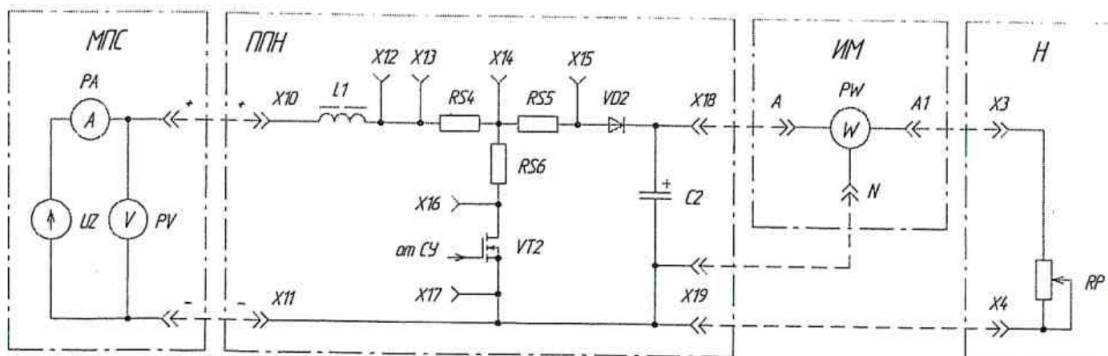

Рис. 2: Schematic diagram for the study of a step-up DC-DC converter
1. Assemble the circuit for the study of the DC-DC converter in accordance with Fig. 2 Additional external connections are indicated by dashed lines.